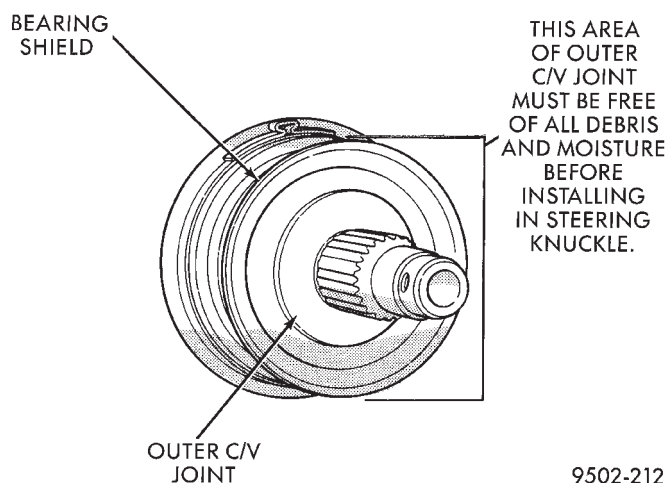

Fig. 15 Outer C/V Joint Inspection
(5) Ensure that front of outer C/V joint which fits against the face of the hub and bearing is free of debris and moisture before installing outer C/V joint into hub and bearing assembly (Fig. 15).